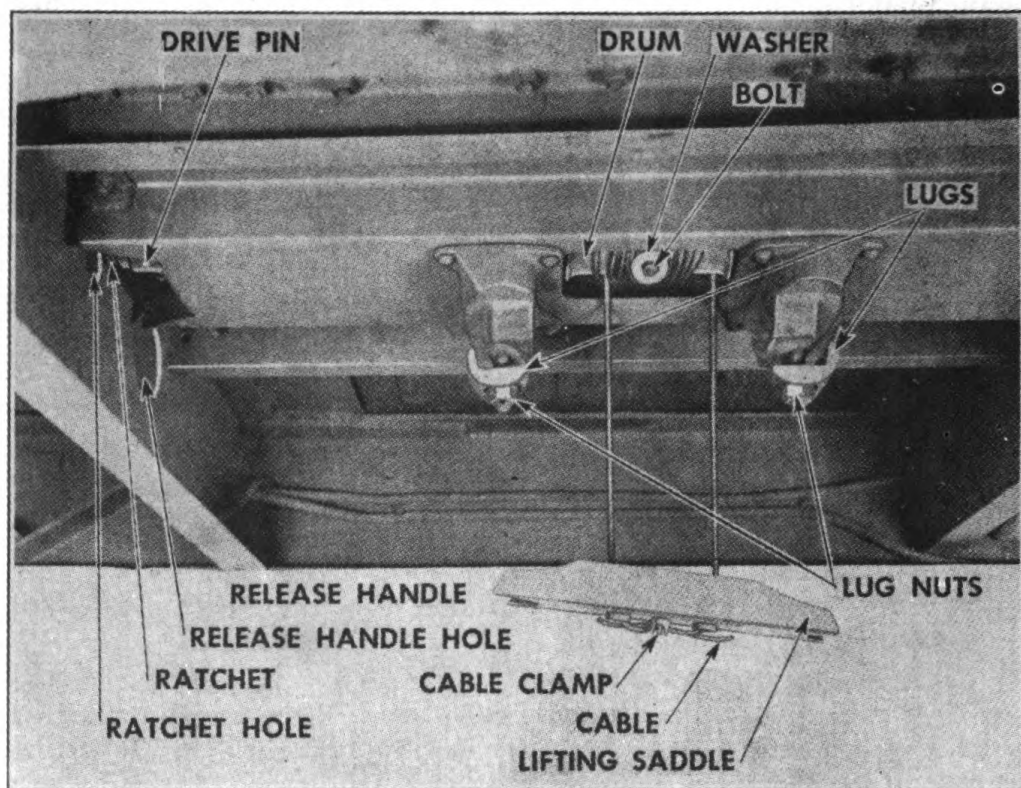

FIGURE 49. TIRE CARRIER REMOVAL
6. **TIRE CARRIER.**—*a. Removal.* (Fig. 49).—(1) Remove tire from tire carrier. Remove the four bolts holding tire carrier to frame and lift assembly out.
b. Cable replacement.—(1) Remove the bolt that runs through drum.